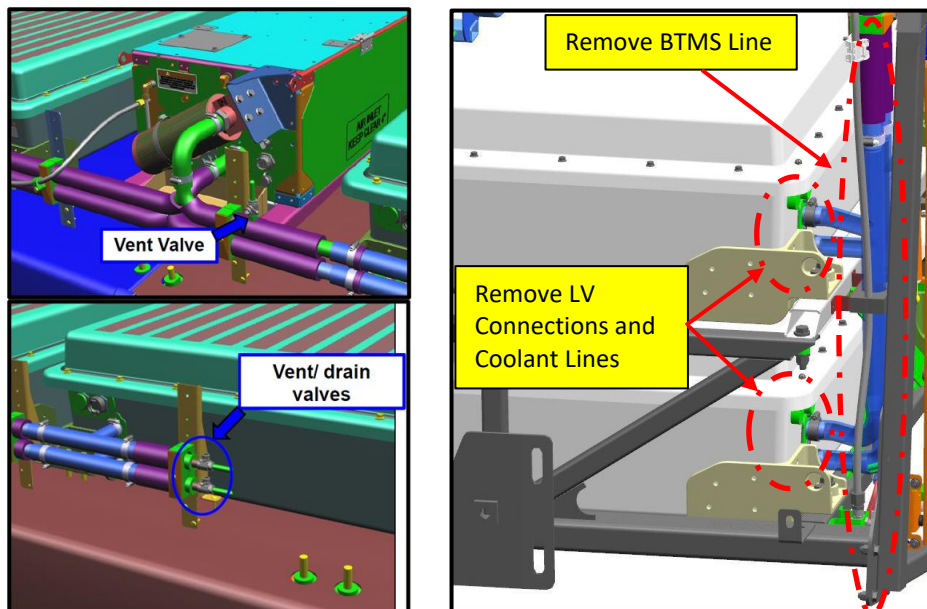

Figure 16A: Low Voltage and Coolant Line Connections Location References.
55. Disconnect and secure the low voltage harness connected to both ESS packs. Disconnect the supply and return coolant lines from both ESS packs. See Figure 16A. Install coolant line caps on the ends of each fitting.